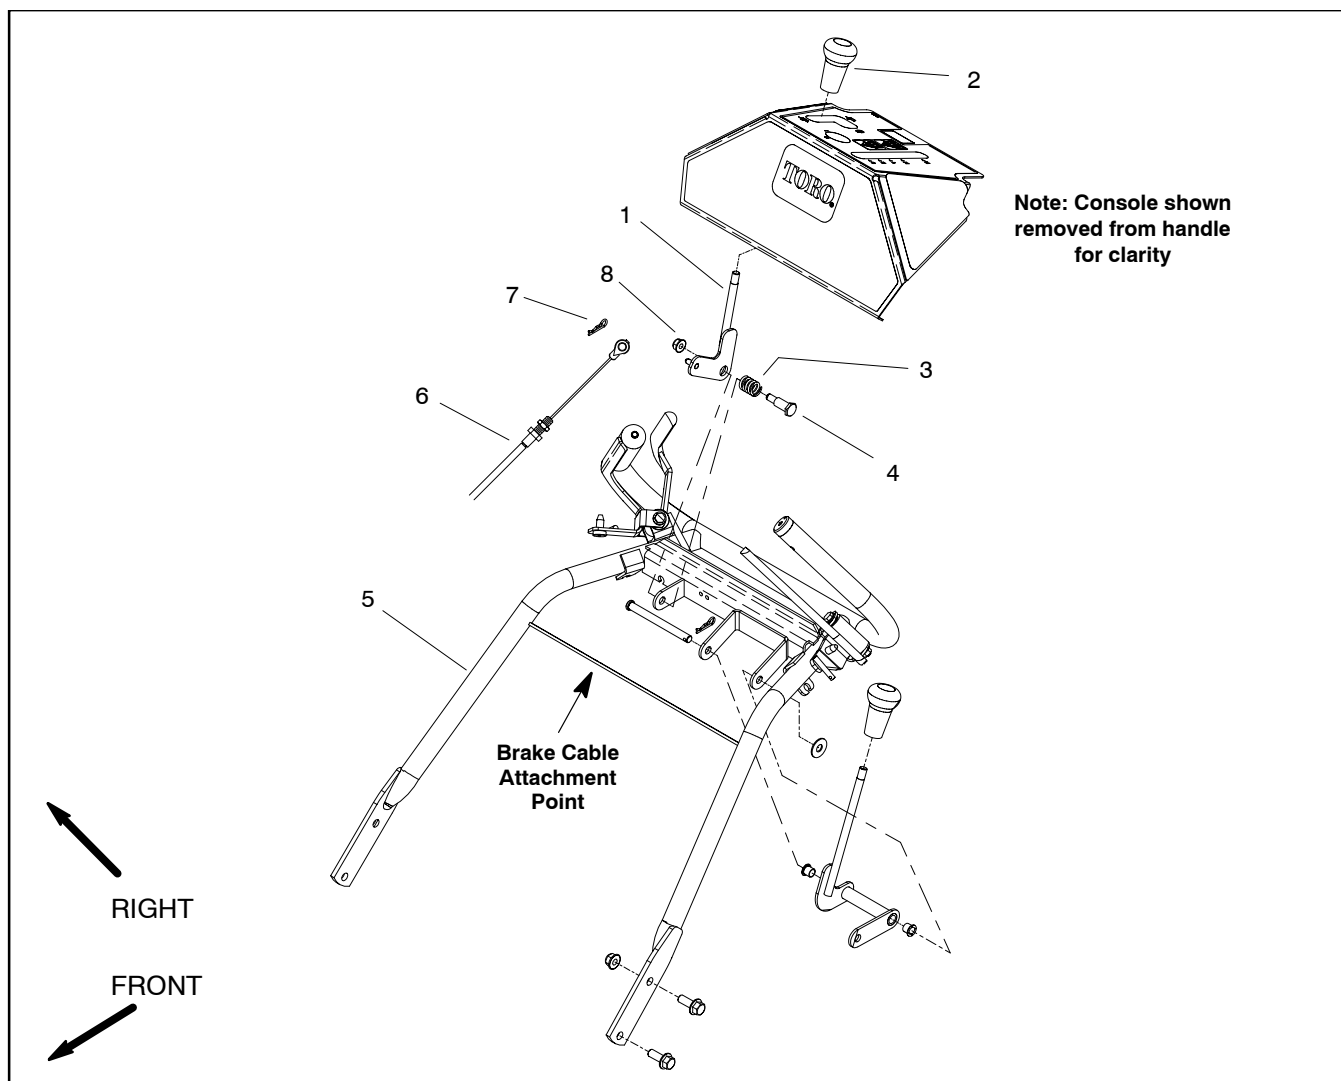

Figure 6
Removal (Fig. 6)
2. Disconnect brake cable from brake lever (Fig. 6):
Installation (Fig. 6)
2. Connect brake cable to brake lever on handle (Fig. 6):